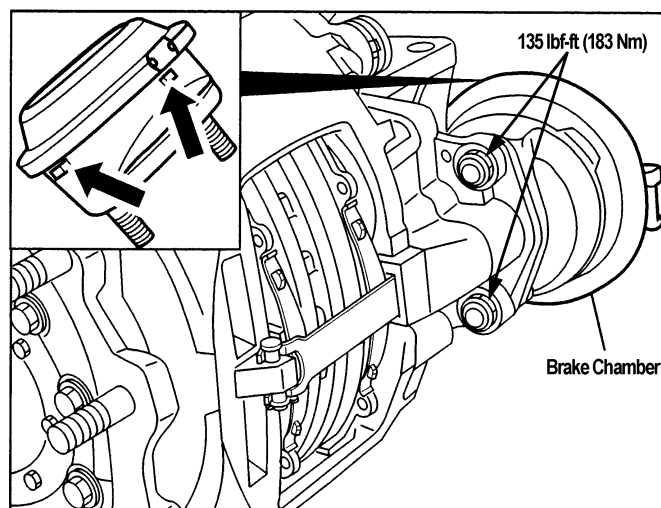

FIGURE 1
6. Unscrew brake chamber mounting nuts (refer to figure 1).
2. Tighten new mounting nuts (5001253) to 135 lbf-ft (183 Nm) (refer to figure 1).
Note: New brake chambers have drain plugs installed. Remove bottom plugs (see arrows in fig. 1). All other drain holes should be plugged.
7. Unscrew brake chamber mounting nuts (refer to figure 1).
1. Unscrew brake chamber mounting nuts (refer to figure 1).